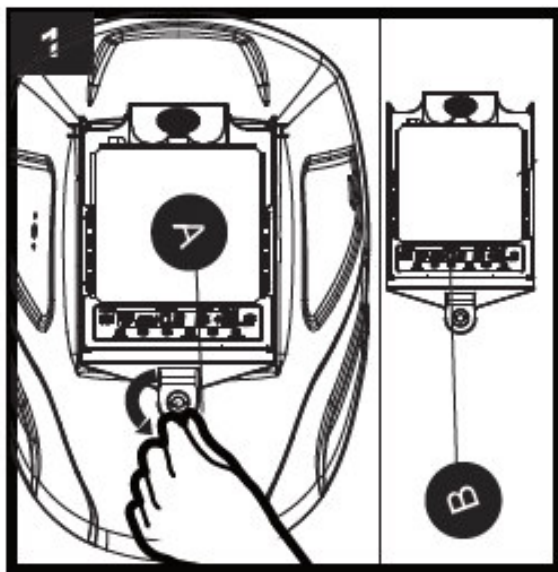

Fig. 9: Replacing filter and front pane
1. Unscrew the nut (A) and remove the complete frame (B) (Fig. 9).